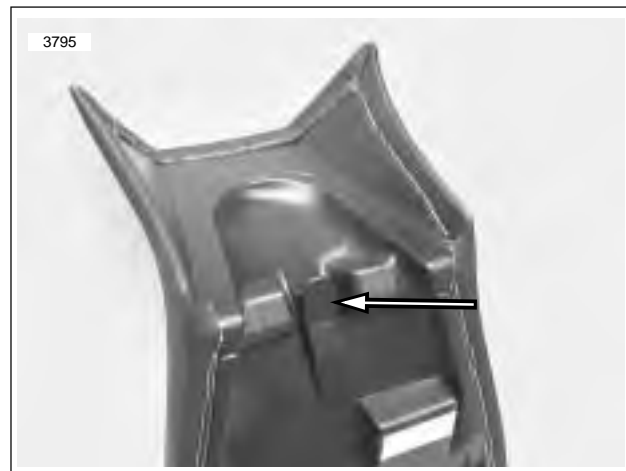

Figure 2-117. Locking Seat Tongue
3. See Figure 2-117. Push seat forward while flexing the rear section of the seat upward until the tongue locks into the bracket located on the frame.